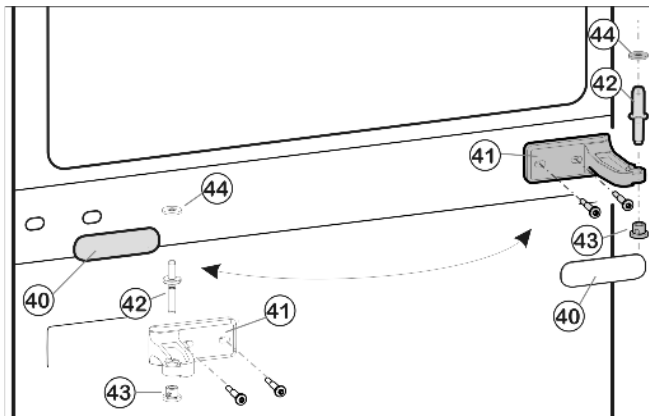
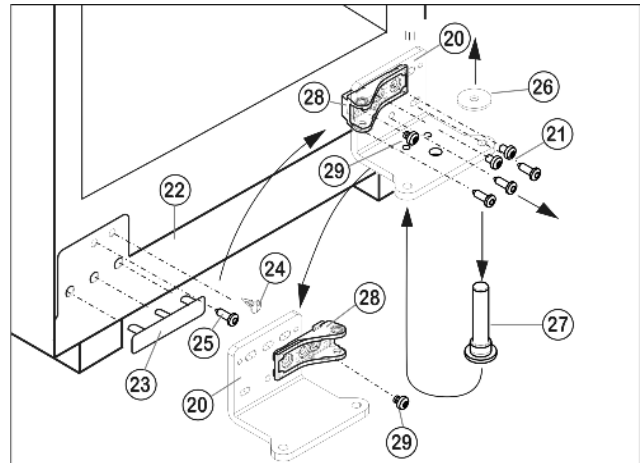

Fig. 28
Fig. 29
- Remove center bearing pin *Fig. 28 (42)* from the bearing bracket *Fig. 28 (41)* and the lower door using the bearing disc *Fig. 28 (44)*.
- Pull sleeve *Fig. 28 (43)* downwards out of the center bearing bracket *Fig. 28 (41)* and place it into the upper part.
- Carefully remove cover trim *Fig. 28 (40)*.
- Turn the centre bearing bracket *Fig. 28 (41)* with protective film by 180° and move it to the new hinge side.
- Turn the cover trim *Fig. 28 (40)* 180° and snap it back into place on the new handle side.
- Unscrew bearing bracket *Fig. 29 (20)* together with bearing pin *Fig. 29 (27)*. When doing so, hold panel *Fig. 29 (22)* steady so that it does not drop.
- Carefully lift off the cover on the handle side *Fig. 29 (23)* and the plug *Fig. 29 (24)* and move them to the opposite side.
- Unscrew screw *Fig. 29 (25)* and move it to the opposite side. When doing so, hold panel steady so that it does not drop.
- Unscrew bearing part *Fig. 29 (28)*, turn it 180° and tighten *Fig. 29 (29)*.
- Remove bearing disc *Fig. 29 (26)* from bearing pin *Fig. 29 (27)*.
- Unscrew bearing pin *Fig. 29 (27)*, move to other side and place bearing disc *Fig. 29 (26)* on.
- Using a cordless screwdriver if necessary, attach the bearing bracket *Fig. 29 (20)* to the new hinge side. First fit the lower center screw, then the other screws.
- ▶ Ensure that the bearing disc *Fig. 29 (26)* is on the bearing pin below *Fig. 29 (27)*.
- ▶ Position the door from above onto the lower bearing pin *Fig. 29 (27)*.
- ▶ Insert the center bearing pin *Fig. 28 (42)* and bearing disc *Fig. 28 (26)* on the new hinge side through the center bearing bracket *Fig. 28 (41)* into the lower door.
- ▶ Ensure that the bearing disc *Fig. 28 (26)* is on the center bearing pin *Fig. 28 (42)*.
- ▶ Position the door from above onto the center bearing pin *Fig. 28 (42)*.
- Unscrew center screw on lower bearing bracket Fig. 29 (20).
- Align the doors flush with the appliance housing using the two oblong holes in the lower bearing bracket Fig. 29 (20) and center bearing bracket Fig. 28 (41) as a guide if needed.